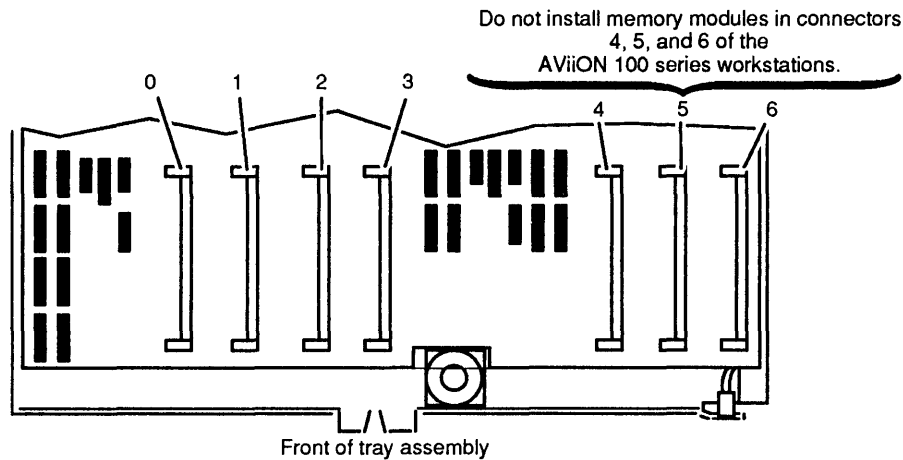

Figure 4–36 Memory Module Connector Numbering Scheme
- Install memory modules beginning with connector number 0. Figure 4–36 shows the connector numbering for the memory modules.
- To make it possible to remove or install a memory module from a connector, temporarily remove any memory modules installed to the right of the connector as you face the front of the tray assembly, as shown in Figure 4–36.
Table 4–1 shows valid configurations for *all except AViiON 100 series*. Figure 4–36 shows the corresponding connector numbers.
Table 4–2 shows valid memory configurations for the AViiON 100 workstation. Figure 4–36 shows the four connectors that you must use.